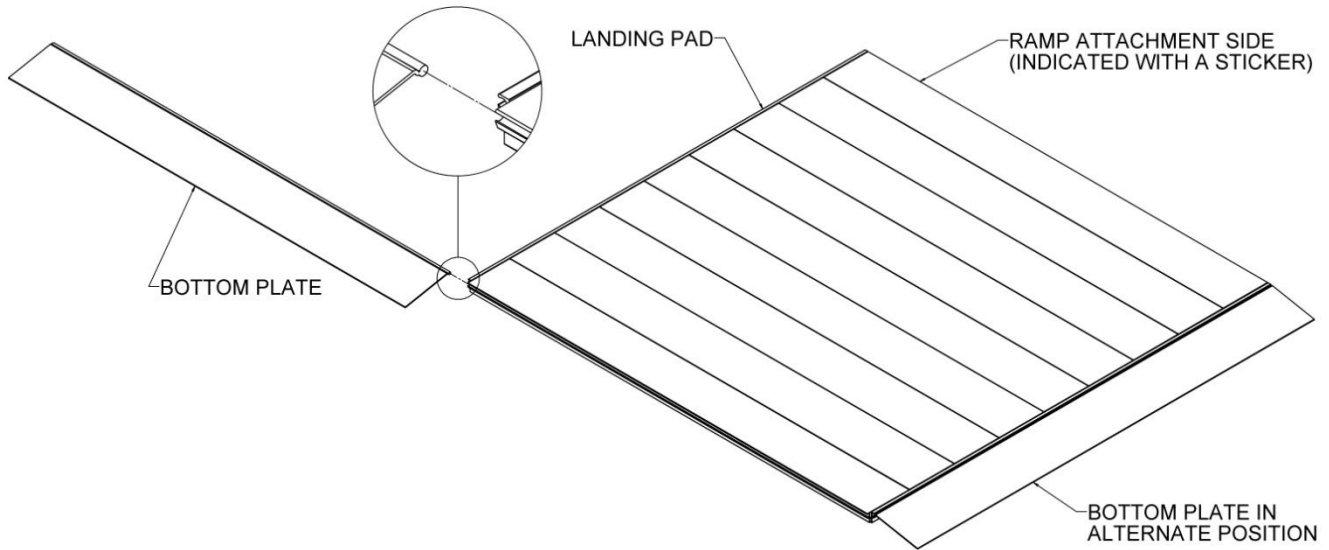

FIG. 6.18
- 6.6.2. Slide the bottom plate into one of the three available slots (FIG. 6.18).